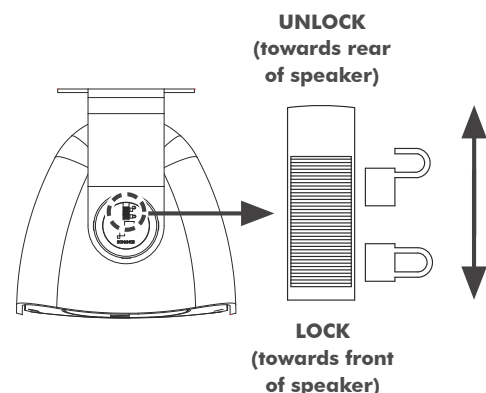

FIGURE 4: LOCK AND UNLOCK SLIDE LOCKS TO PIVOT SPEAKER
1. Unlock the slide locks on the speaker pivots by moving them towards the rear of the speaker (see figure 4).